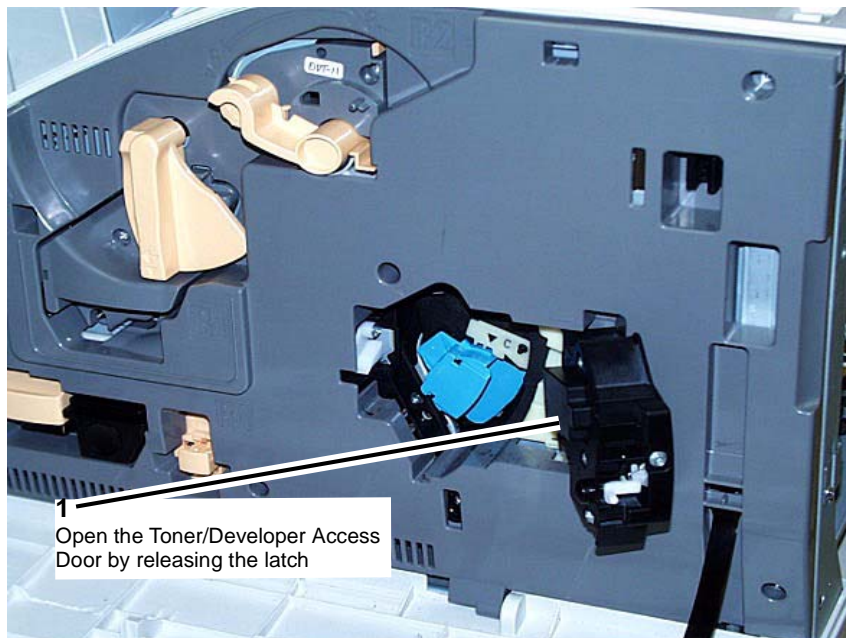

Figure 1 Opening the Access Door
6. Open the Toner/Developer Access Door by releasing the latch. (Figure 1)